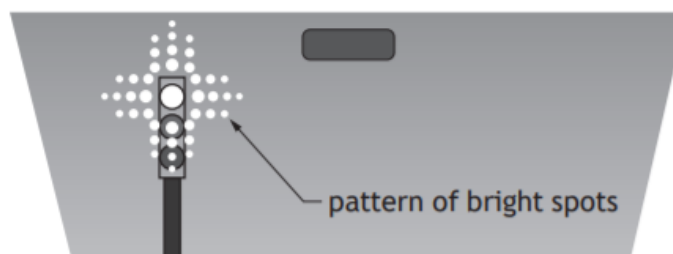

Figure 10A
This is shown in Figure 10A.
- (a) Explain how the **two-dimensional** pattern of bright spots shown in Figure 10A is produced. 2